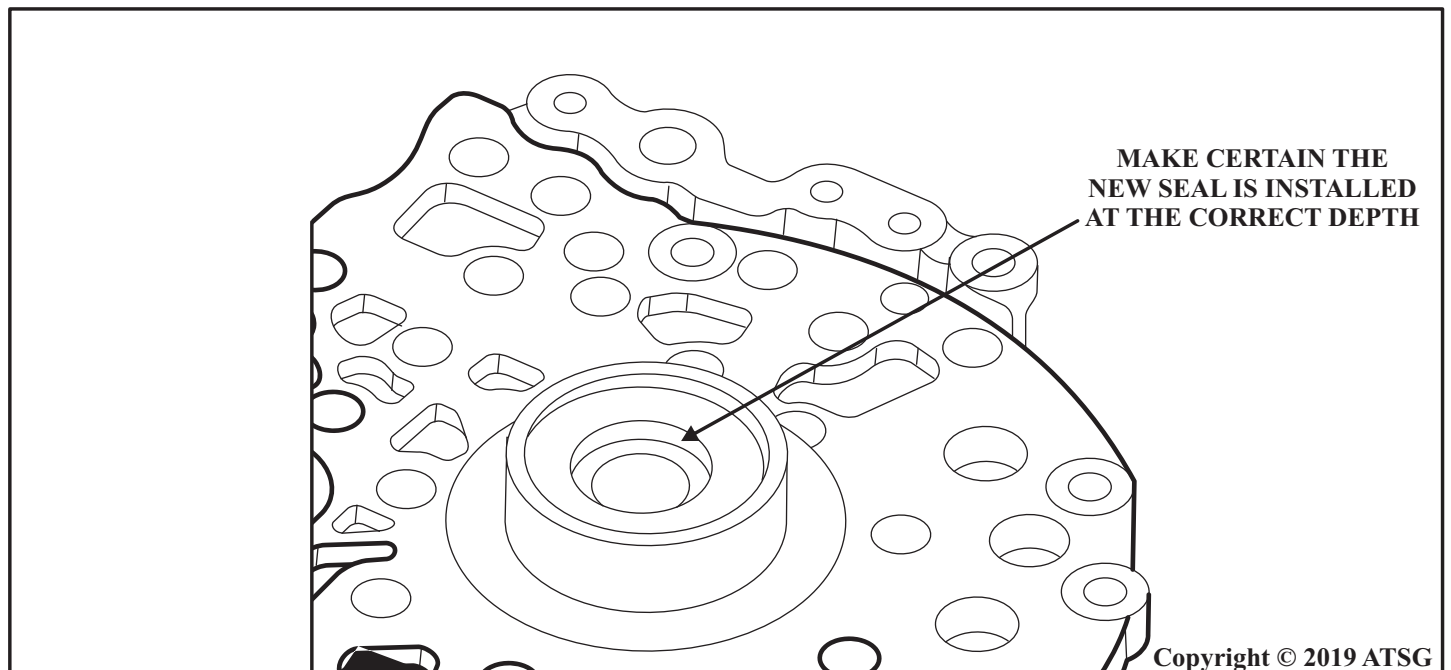

Figure 3
**NOTE:** Check the depth of the old seal before removal so the new seal is installed at the same depth as seen in figure 3.